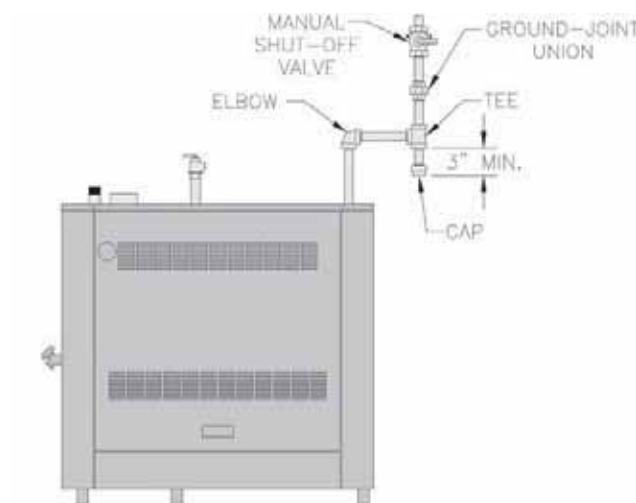

Figure 30: Recommended Gas Piping
3. Install sediment trap, ground-joint union and manual shut-off valve upstream of boiler gas control valve and outside jacket. See Figure 30.